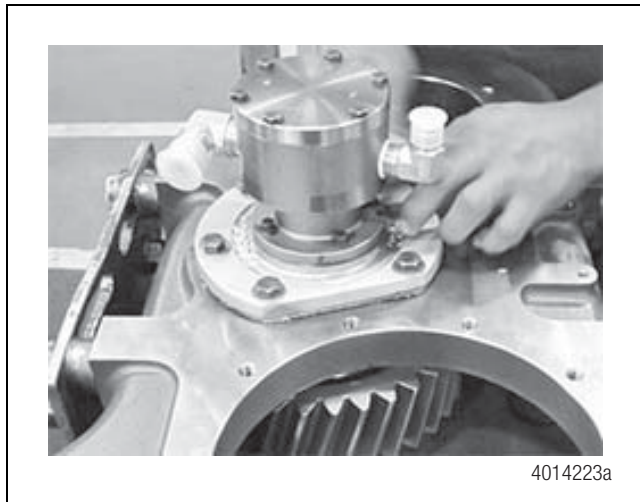

Figure 6.34
12. Install the oil pump using a gasket and four bolts. Torque to specifications. Figure 6.34.